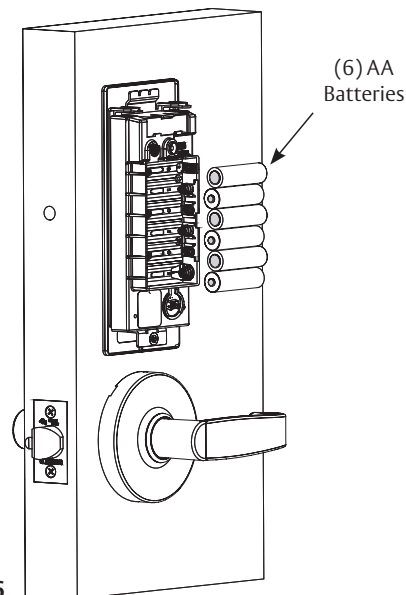

Fig. 26
- a. Place six (6) "AA" alkaline batteries in compartment, being careful to align polarity properly. (Fig. 26)